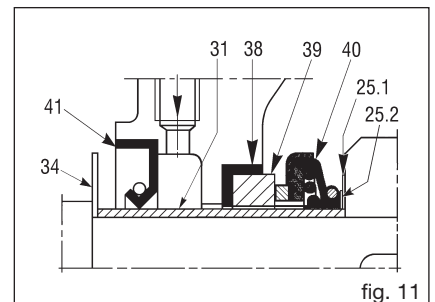
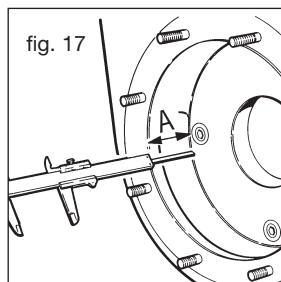
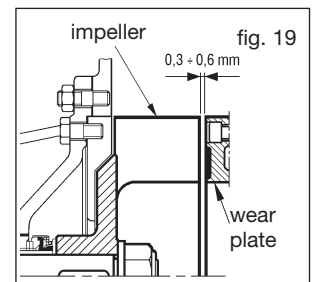
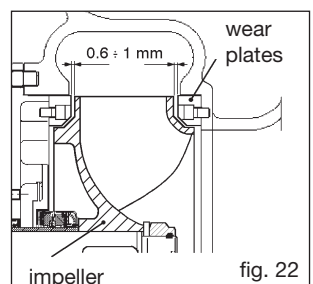

fig. 11
fig. 17
fig. 19
fig. 22
- In all models, the distance between the top of the impeller blades and the surface of the wear plate must be between 0.3 - 0.6 mm (fig. 19). For the 12" model, the distance between the impeller and the front and rear wear plates must be between 0.6 - 1 mm (fig. 22). To achieve this, dimensions A and B in figs. 17, 18, 20, 21 must be as nearly as possible equal. To this end, use the shims (25.2) (fig. 11) supplied with spare mechanical seals. These shims are used to move the impeller further forward if it is too far from the front wear plate or too near the rear wear plate. The shims should be mounted between the seal support ring (25.1) (fig. 11) and the impeller. Further adjustments can be carried out using casing gaskets (and rear wear plate gaskets on models which fit these). The presence of the casing gasket (43) (fig. 10) 0.5 mm thick then creates the correct distance (fig. 19).